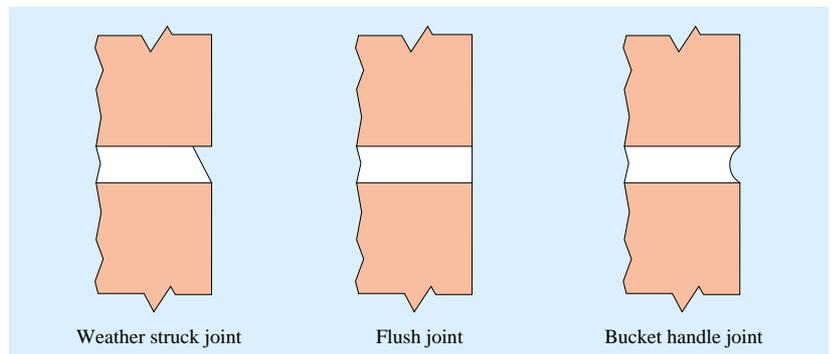

Figure 1 Recommended pointing
- 4 Specify weather-struck, flush or bucket-handle joints (Figure 1). Recessed joints increase the risk of water penetration. Ensure all bed joints and perpend joints in the external wall are fully filled with mortar.